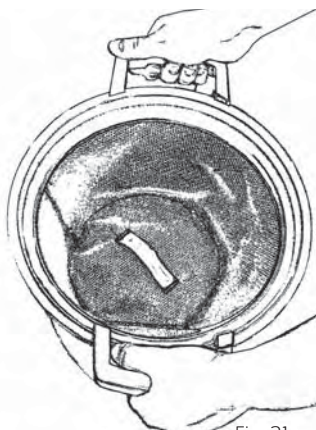

Fig. 21
3. Do not remove the filter from the container. Instead, give the filter a light shaking inside the container to loosen dust from the filter allowing it to fall into the container, Fig. 21.